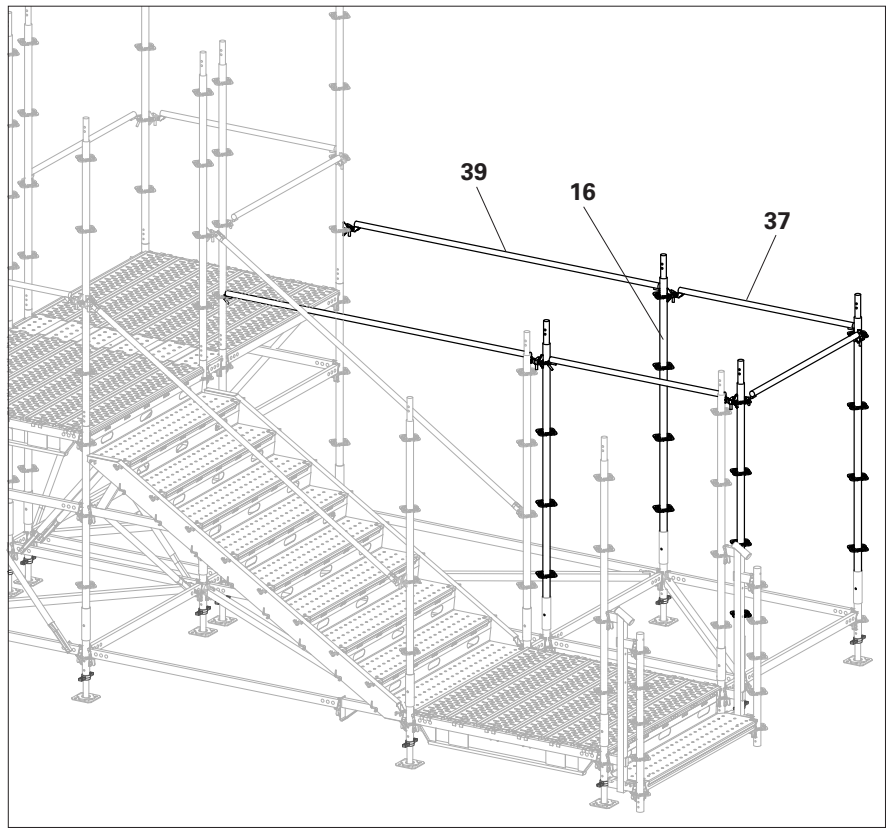

Fig. B2.07
1. Attach the Guardrail UPGAs (**37 / 39**) to their respective standards at 2m high, then insert standards (**16**) into base standards. (Fig. B2.07)